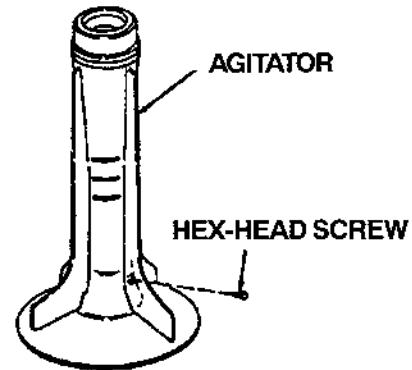

Fig. 20
1. Install each rotary switch by first orienting the switch as shown in Figure 20. Insert the switch into the mounting socket in the control panel and turn it 45° clockwise or until the locking tab engages in the detent notch.
Refer to Figure 20 for these procedures.